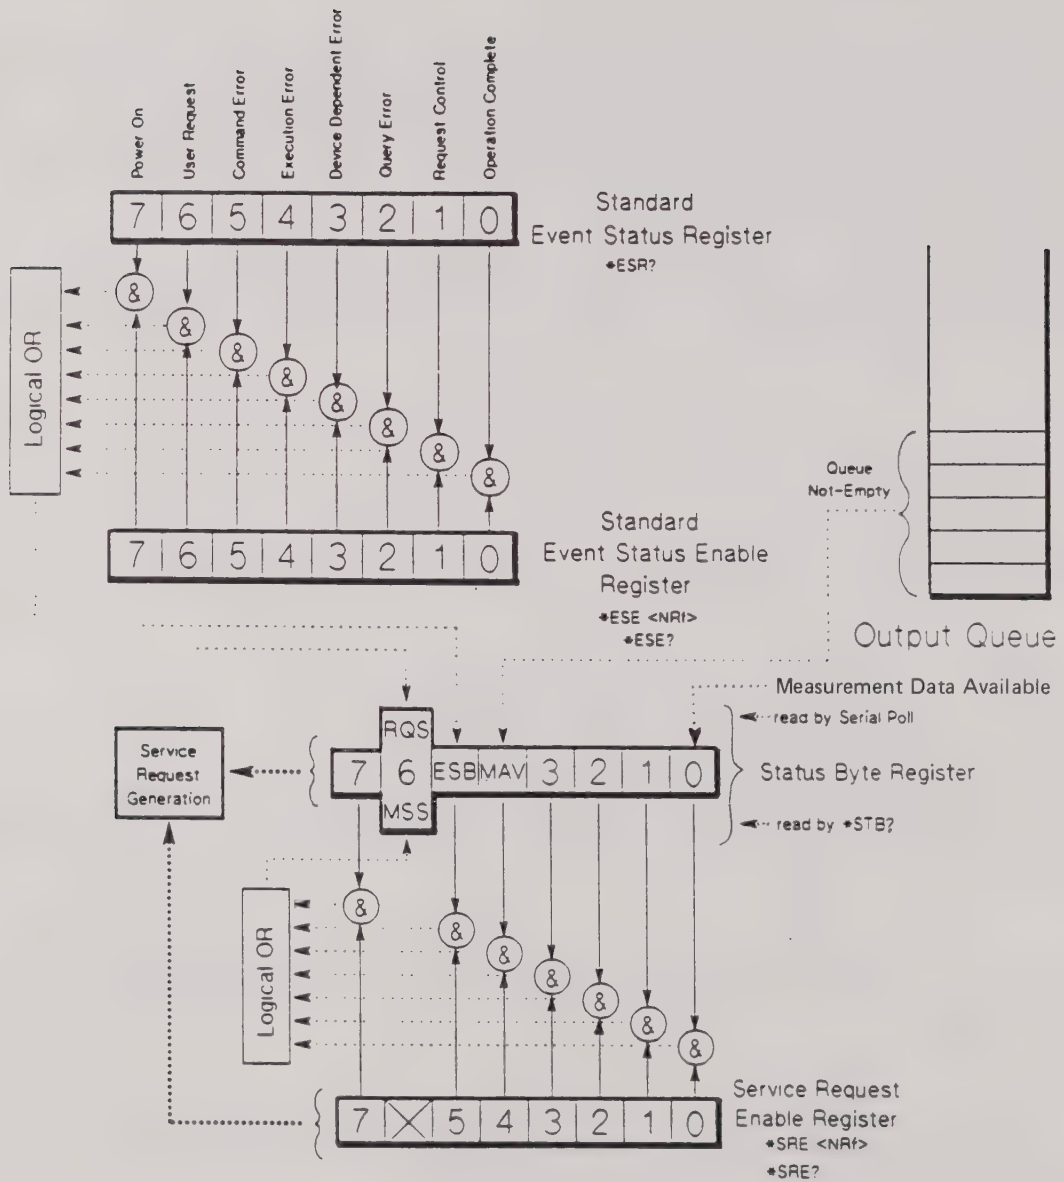

Figure 4-1. 1993 Status Data Definition
4.4.1.1 All 1993 messages and status bytes are defined by IEEE-STD-488.2 (1987). Definitions of 1993 event status and status bytes registers are shown in Figure 4-1. To obtain the counter's status, first program the two masks; then read the status registers. Depending on the status condition, another query could be sent to the counter to read the status message. See Table 4-2 for 1993 status byte error codes and their meaning.